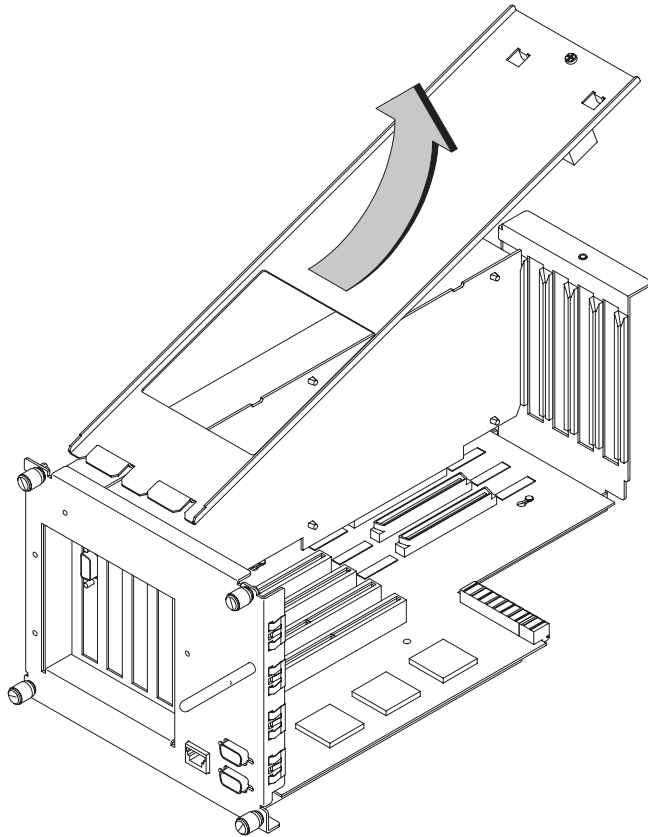

Figure 5-34. Removing the EISA Assembly Cover
3. Unscrew one screw at the back of the cover and lift the cover up and out to remove it from the EISA Assembly. See Figure 5-34.